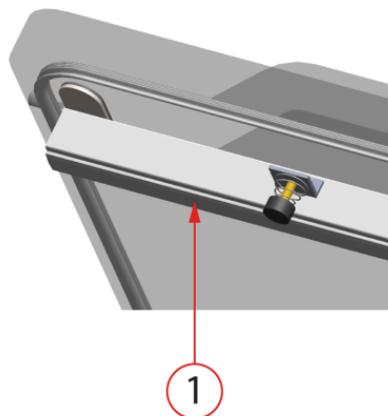

Figure 8: Replacing the Silicone Rubber of the Silicone Holders
1. Pull the old silicone rubber from the holder, see *Figure 8: Replacing the Silicone Rubber of the Silicone Holders* on page 53.